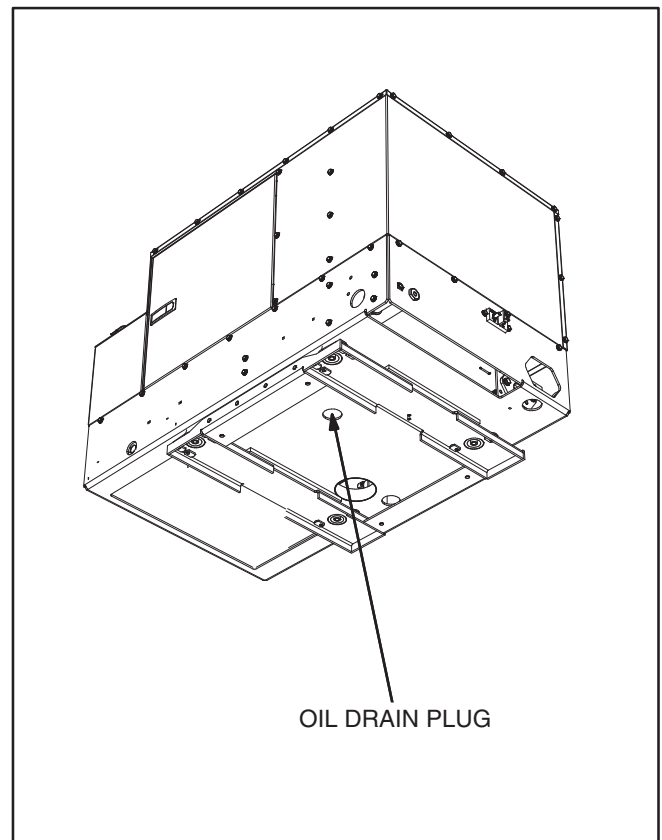

FIGURE 7. OIL DRAIN PLUG
1. Place a pan under the oil drain plug (Figure 7), run the genset until warm and shut it off.